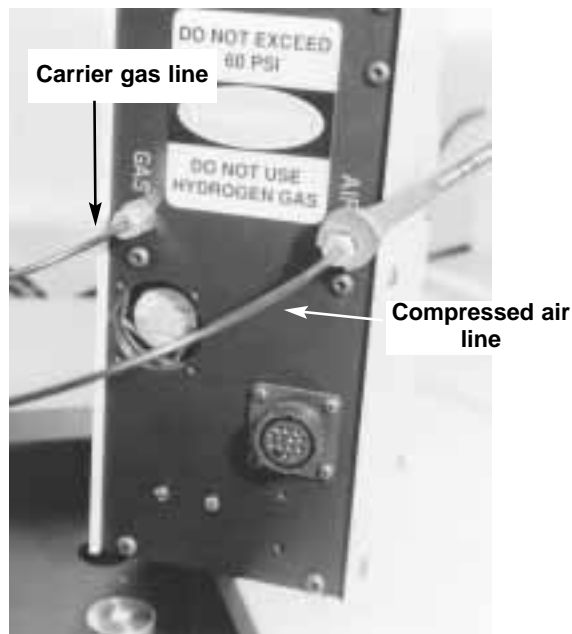

Fig 3.46 1/8" PTFE tubing is used for the carrier gas line and the compressed air line on the S.P.T.D. unit.
18. As before, cut an appropriate length of the 1/8" PTFE tubing supplied with the S.P.T.D. to connect from the compressed air source to the fitting labeled “AIR”. Be sure the tubing is fully seated in the fittings and then tighten the fittings finger tight. Using the 7/16" wrench tighten the fittings 3/4 turns further. See **Figure 3.46**.